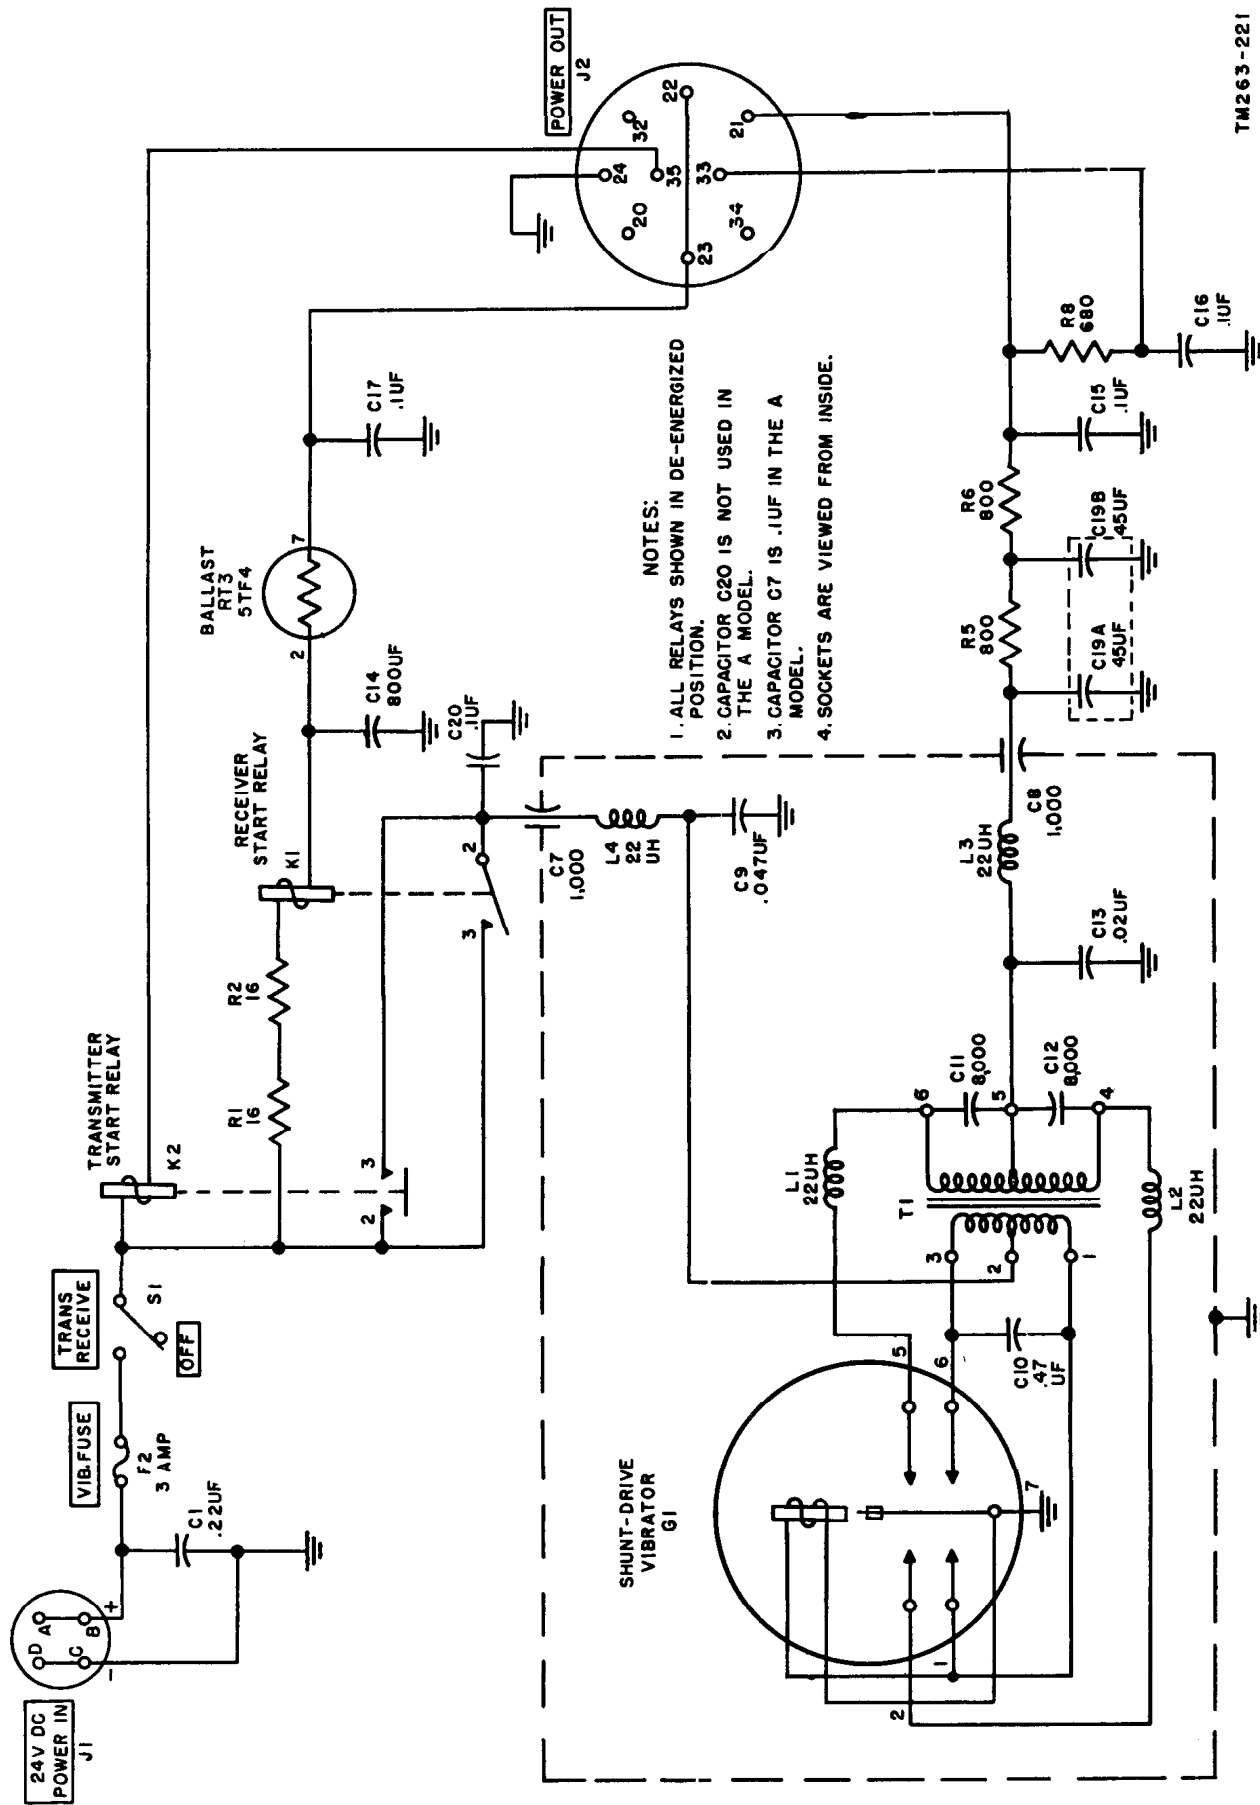

Figure 106. Dynamotor-Power Supply DY-105/GRC-9X, vibrator, transmitter start, and receiver filament circuit.
157. Receiver Filament Supply of Dynamotor-Power Supply DY-105/GRC-9X (fig. 106)
158. Receiver Plate and Screen Supply of Dynamotor-Power Supply DY-105/GRC-9X (fig. 106)
a. Closed contacts 2 and 3 of K2 apply battery power to the vibrator section of the dynamotor power supply (fig. 106). The 105-volt output is applied to the transmitter through terminal 21 of J2, terminal 57 on J102 (fig. 94), and closed contacts of keying relay K101.